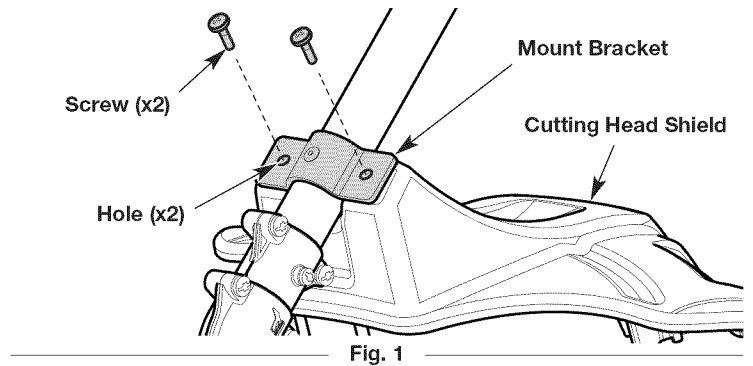

Fig. 1
1. Place the cutting head shield under the mount bracket (Fig. 1). Align the holes in the cutting head shield with the holes in the mount bracket (Fig. 1).
2. Insert the screws (x2) into the aligned holes (Fig. 1). Tighten the screws by hand until they are finger tight.